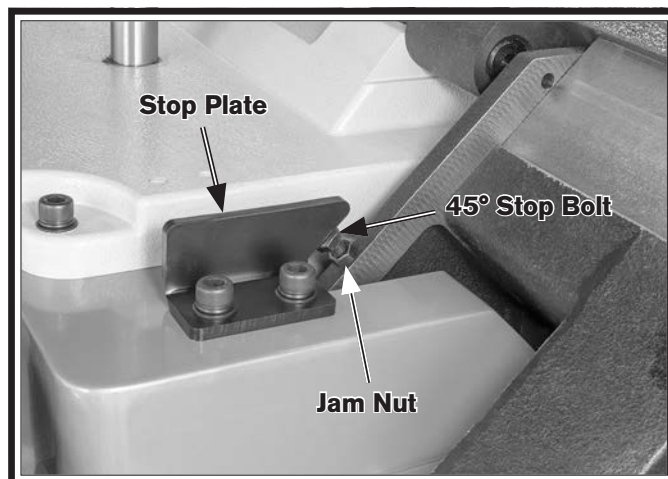

Figure 55. Location of 45° stop bolt and jam nut.
6. Loosen jam nut on 45° stop bolt shown in **Figure 55**, and adjust 45° stop bolt until platen is 45° to table when bolt contacts stop plate.